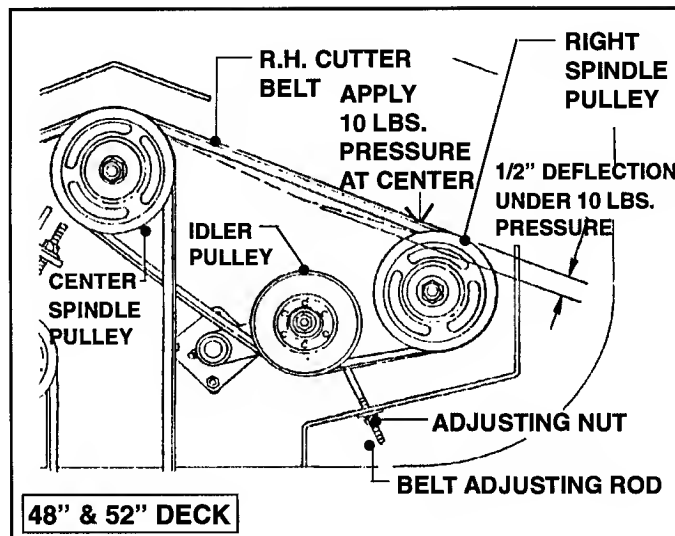

FIGURE 5.35
2. If Belt needs adjusting, tighten or loosen the nut on the Belt Adjusting Rod. See Figure 5.35.